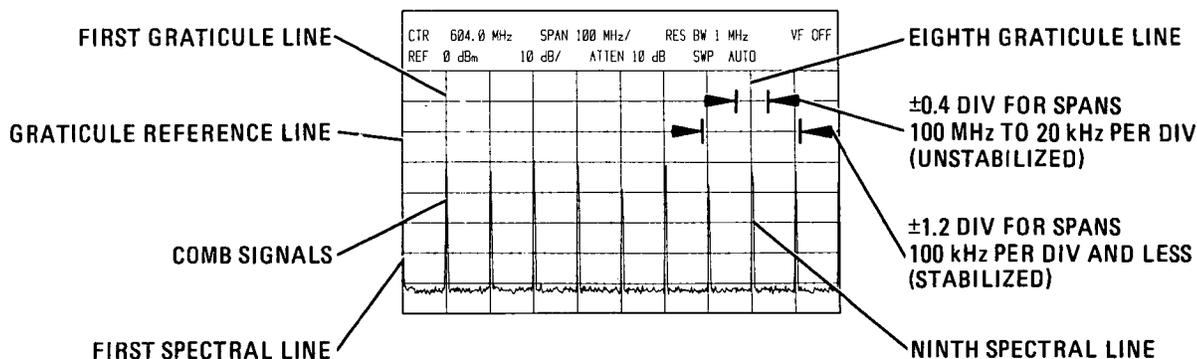

Figure 4-4. Span Width Accuracy Measurement, 100 MHz per Division and Less
13. Adjust spectrum analyzer TUNING control to position one spectral line (from comb generator) at graticule reference line (first graticule line at far left) of display. Measure error between ninth spectral line and eighth graticule line. Error should not exceed  $\pm 0.4$  division. (See Figure 4-4.)